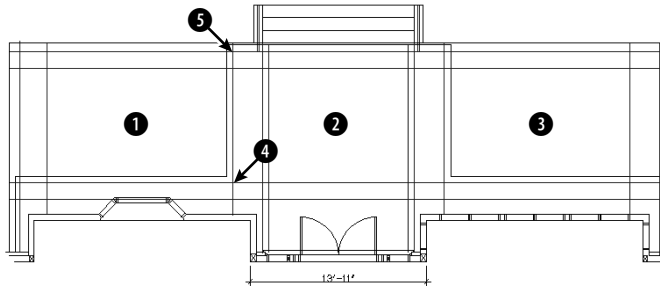
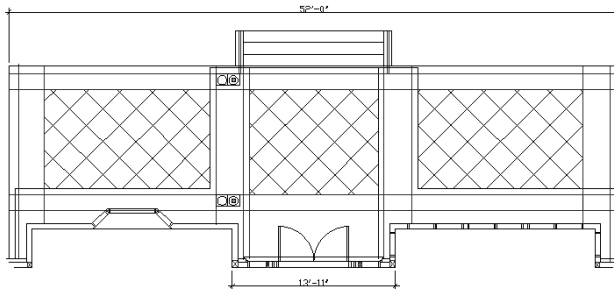

Figure 26-8: This back porch needs some columns (which are blocks), some hatching, and a dimension.
Figure 26-9: The drawing now has hatches and blocks inserted from the tool palette. It also has a new dimension.
2. Save the file as `ab26-02.dwg` in your AutoCAD Bible folder. This drawing, shown in Figure 26-8, needs some blocks and a hatch pattern inserted. You'll also add a dimension.
12. Drag the User Defined hatch icon to ❶ in Figure 26-8. Then do the same for ❷ and ❸. These areas are hatched, as shown in Figure 26-9.
15. Switch back to the 2d arch tab and click the Post icon. At the Specify insertion point: prompt, pick the intersection at ❹ in Figure 26-8. Click the Post-Structural icon. At the prompt, pick the upper-right corner of the post block, as shown in Figure 26-9.
16. Click the Post icon. At the prompt, pick ❺ in Figure 26-8. Use the same technique to place the Post-Structural icon at the upper-right corner of the post block. (The posts would then need to be spaced and mirrored to the other side of the porch, but these tasks are not necessary for this exercise.)
19. Save your drawing. It should look like Figure 26-9.